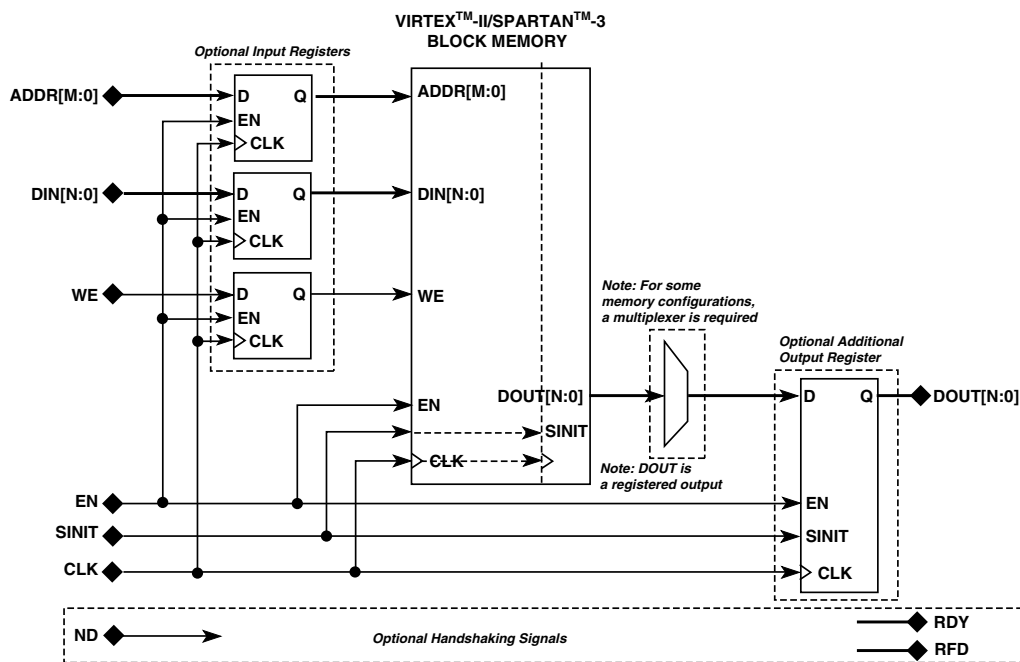

Figure 2: Single-Port Memory Block Diagram
- **Register Inputs:** Check this box to register ports DIN, ADDR, and WE prior to accessing block memory. See Figure 2.
- **Additional Output Pipe Stages:** Select “1” to enable an additional register on the output of the memory; select “0” to disable an additional register on the output of the memory. See Figure 2.